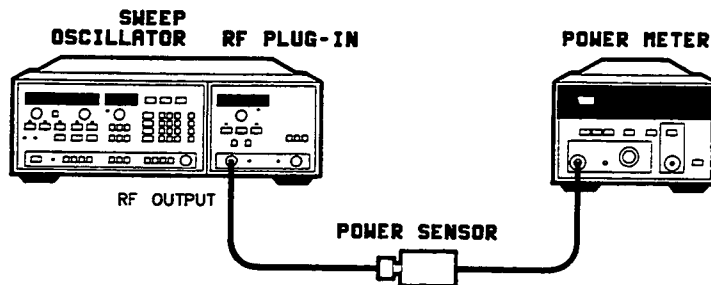

Figure 4-2. Output Amplitude Test Setup
1. Connect the equipment as shown in Figure 4-2. Do not connect the power meter/sensor to the HP 83592B power output. Allow at least one hour of warm-up.